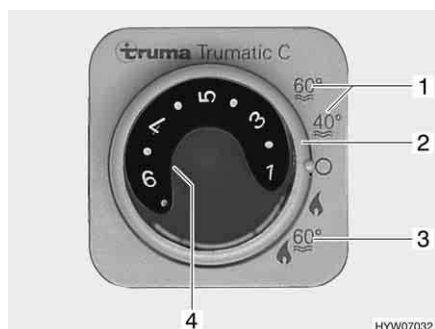

Fig. 57 Operating unit for heater/boiler
The boiler is integrated in the heater system and operates on gas. The boiler is switched on by turning the rotary switch (Fig. 57,2) on the operating unit (Fig. 57).
In winter operation "Heater and boiler" (Fig. 57,3) the water is automatically heated up when the heater is switched on. If the heater switches off after the required room temperature has been reached, the boiler will continue to heat up until the set water temperature has been reached.
In summer operation (Fig. 57,1) only the water in the boiler is heated up to either 40 °C or 60 °C. The water is heated to 60 °C in approx. one hour. The yellow indicator lamp (Fig. 57,4) illuminates during the boiler heating-up period.
- Set the rotary switch (Fig. 57,2) on the operating unit (Fig. 57) to "Summer operation" (Fig. 57,1).
The yellow indicator lamp (Fig. 57,4) is illuminated during the heating up period. When the set water temperature is reached, the period of heating up is finished and the yellow indicator lamp fades.
- Set the rotary switch (Fig. 57,2) on the operating unit (Fig. 57) to "0".